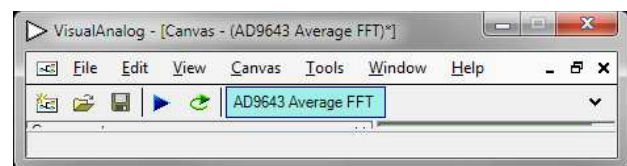
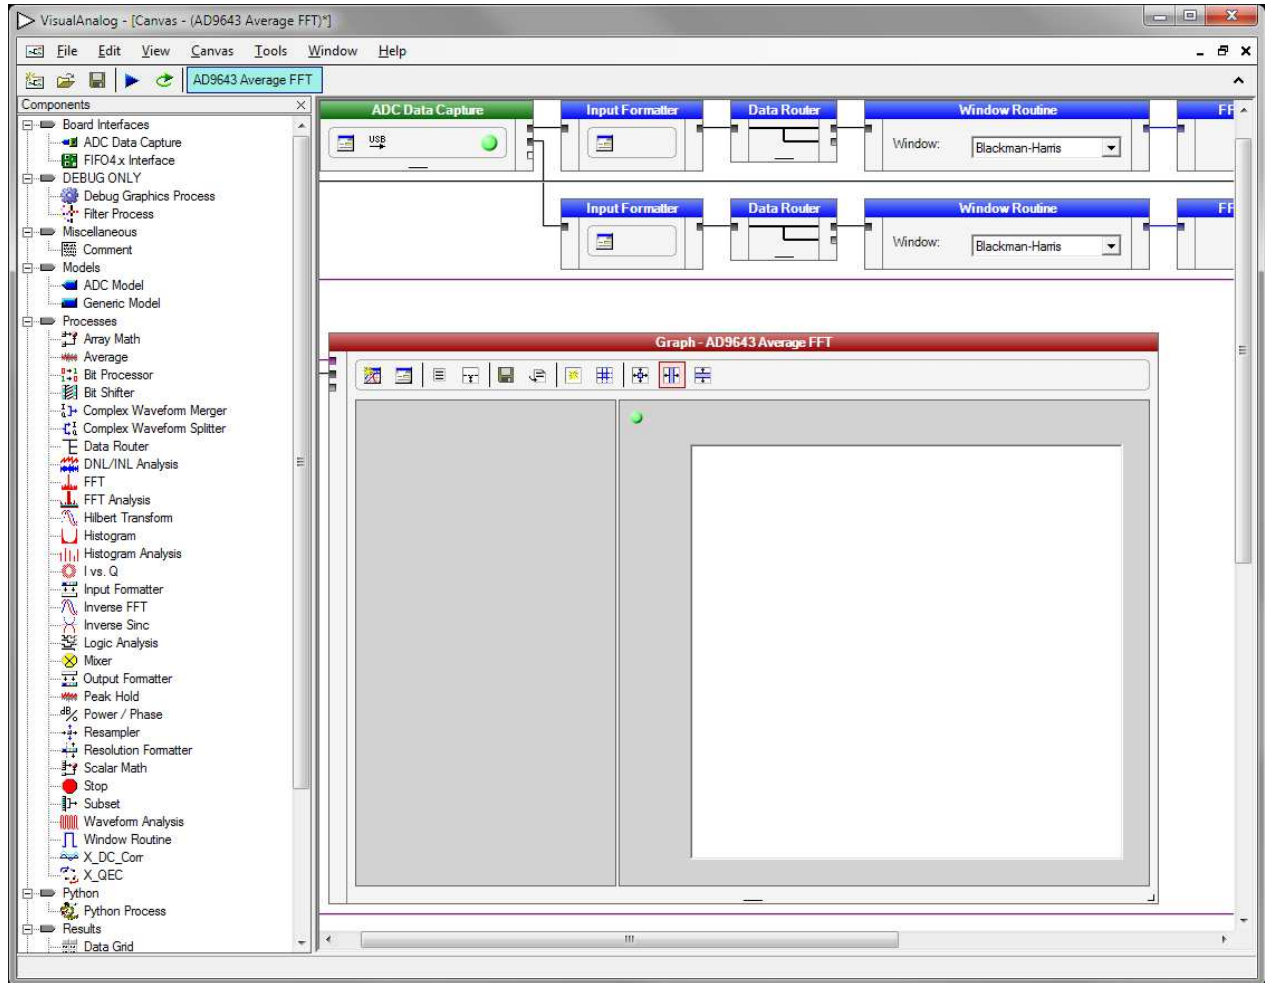

Figure 6. VisualAnalog Window Toolbar, Collapsed Display
Figure 7. VisualAnalog, Main Window
3. To change features to settings other than the default settings, click the **Expand Display** button, located on the bottom right corner of the window, to see what is shown in Figure 7. Detailed instructions for changing the features and capture settings can be found in the AN-905 Application Note, *VisualAnalog™ Converter Evaluation Tool Version 1.0 User Manual*. After the changes are made to the capture settings, click the **Collapse Display** button (see Figure 6).
- In VisualAnalog, click the **Settings** button in the **Input Formatter** block (see Figure 7). Check that **Number Format** in the settings of the **Input Formatter** block is set to the correct encoding (offset binary by default). Repeat for the other channel.